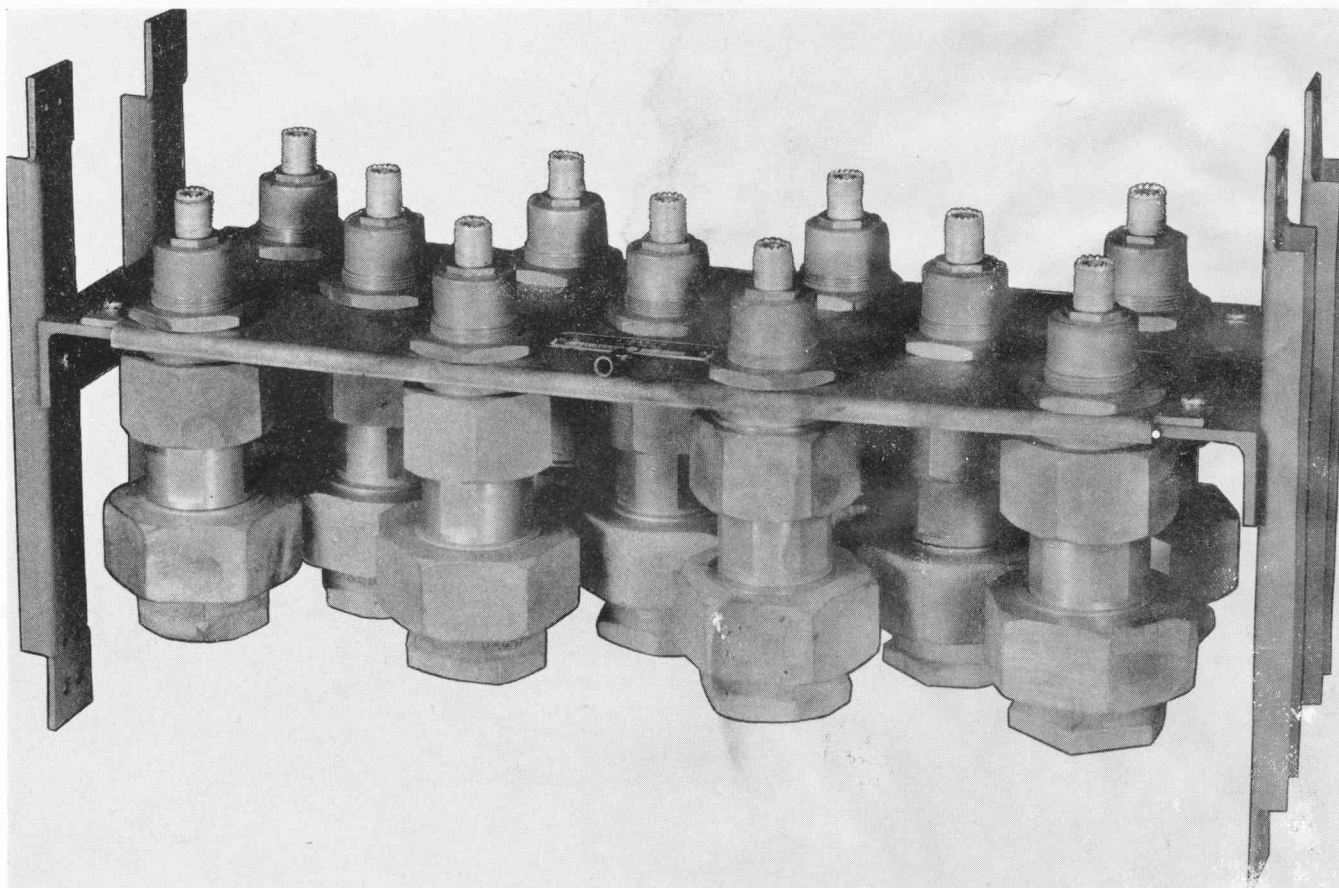

Figure 1-4. Jack Panel AN Type J-243/G With Connector-Adapters Navy Type CIA-491652 in Place.
(3) JACK PANEL AN TYPE J-243/G (*Figure 1-4*).—Jack Panel AN Type J-243/G mounts internally in the cabinet between the horizontal cabinet members on the vertical movable mounting channels. It consists of eleven Connector-Adapters Navy Type CIA-491652 mounted on a steel channel 7" x 20 1/2" fitted with mounting brackets. Eleven 1 17/32" holes are provided for mounting the Connector-Adapters. Since the Jack Panel mounts internally, the front panel space may be utilized for other components which do not project too far inside the cabinet, or is filled with blank panels. The Connector-Adapters are secured in the panel by suitable mounting nuts.
(a) CONNECTOR-ADAPTER, NAVY TYPE CIA-491652 (*Figure 1-4*).—The Connector-Adapter